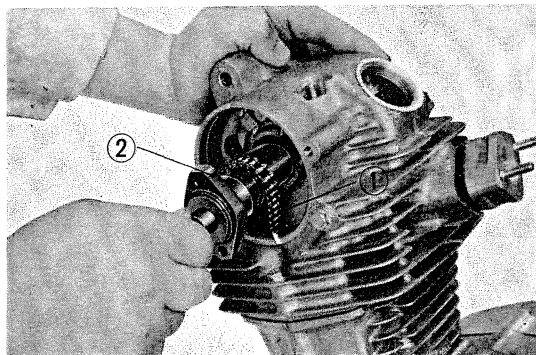

Fig. 34 Camshaft removal
- 7) Align both the inlet and exhaust cams to the cutout on the cylinder head and then remove the camshaft from the cylinder. (Fig. 34)